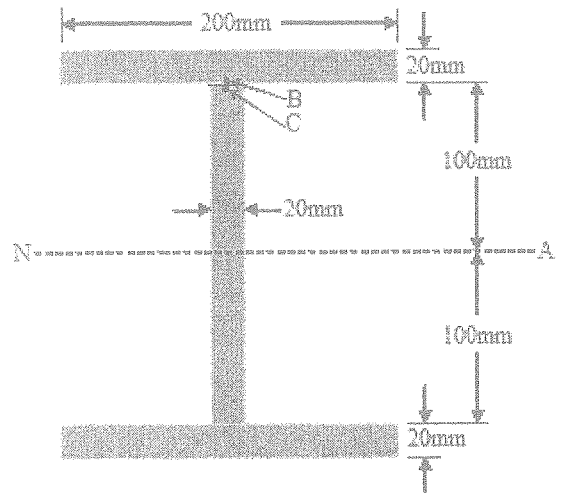

Fig.Q2
- Q2. A steel wide-flange beam has the dimensions as shown in Fig Q2. If it is subjected to a vertical shear force of 60 kN,